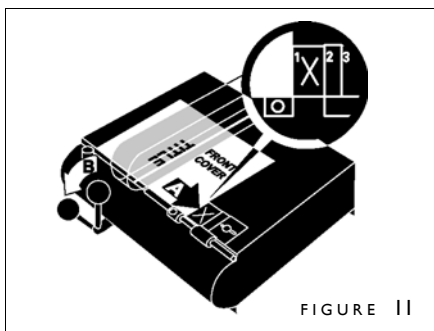

FIGURE 11
5. Bring the Lever upright to unclamp the cover. Slide the cover over so its right edge (A) stops against step 1 (figure 11). Push the Lever to the left (B) to make a score.